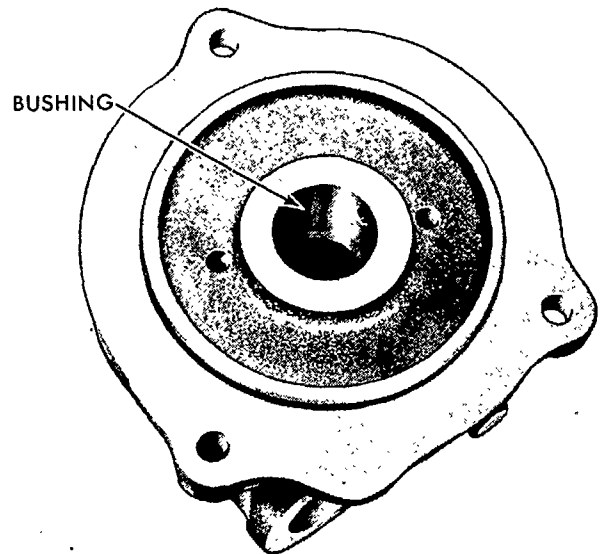

Figure 78
2. Check the shaft bushing in the housing, Figure 78, for wear, score marks, or burrs. Check the I.D. of the bushing with an inside micrometer; refer to page 69, for the correct bushing diameter.
1. If the housing shaft bushing, Figure 78, does not meet specifications, page 69, install a new bushing.